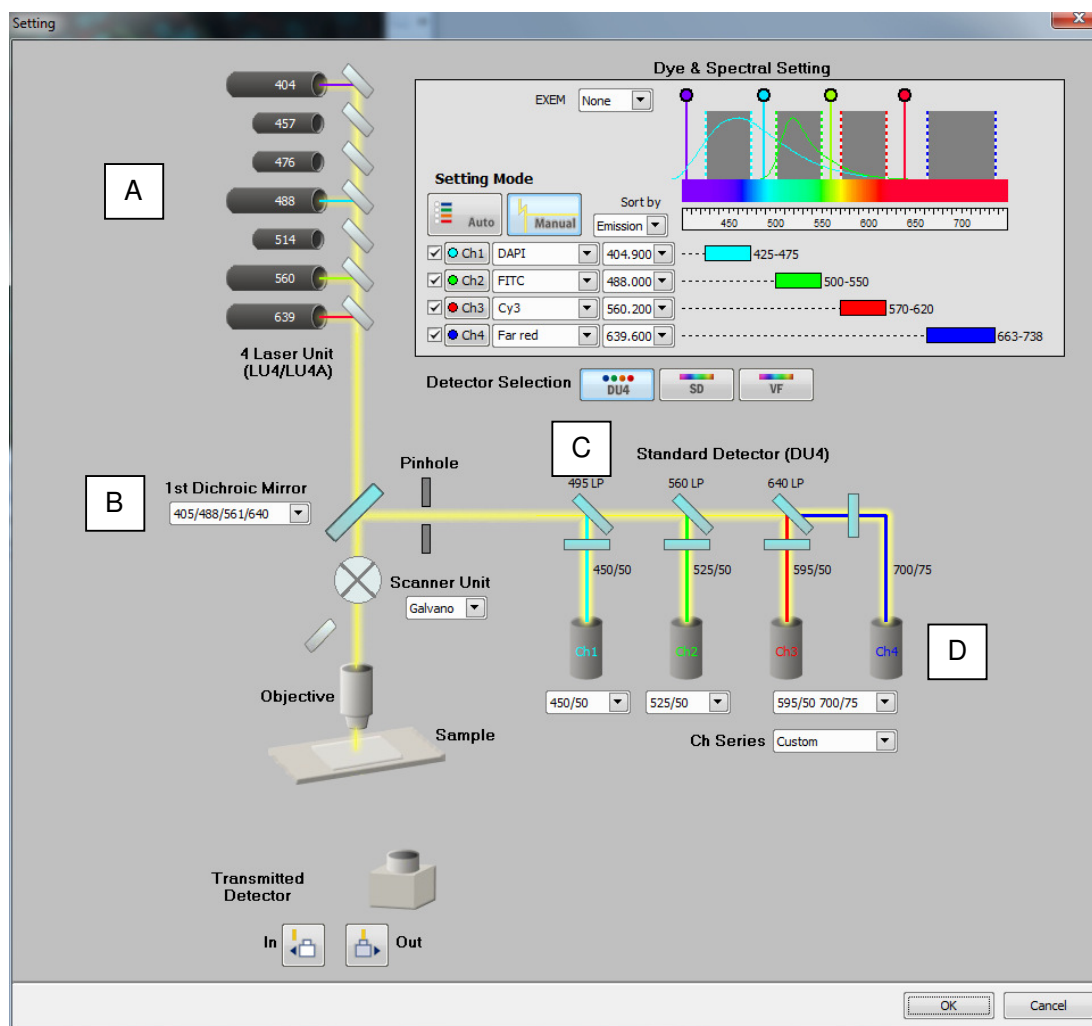

Figure 23. The Channel Settings dialogue box.
A new dialogue box appears (Figure 23) which is very useful for demonstrating the light path and all the elements of a “channel” which are laser line (A), primary dichroic mirror (B), filter block (C) and PMT (D).